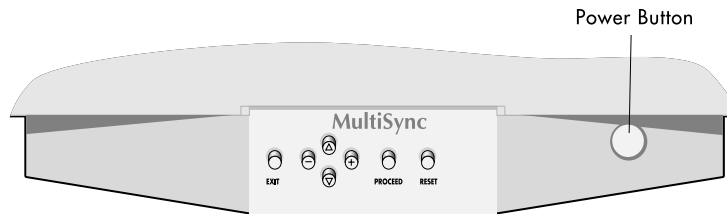

Figure D.1
6. Turn on the monitor (**Figure D.1**) and the computer.